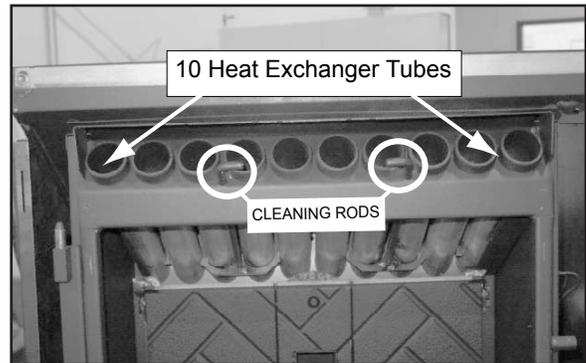

Figure 33.1
- b. Pull firepot cleaning rod OUT a couple of times to help shake debris loose. **See Figure 33.1 on page 33.** If rod is hard to pull, it may be necessary to use your firepot clean-out tool to chip away material that has built up on the bottom plate of the firepot and to push out any clinkers. Larger clinkers may have to be removed from the top of the firepot. Corn clinkers can be especially difficult to break up.
- a. Allow the appliance to completely cool down before pulling the cleaning rods. Turn the thermostat on and then immediately off to start the exhaust blower on its cycle time. It will pull fly ash out the exhaust instead of into the room. Open the cast front door to access the 2 cleaning rods. **Figure 33.1.**